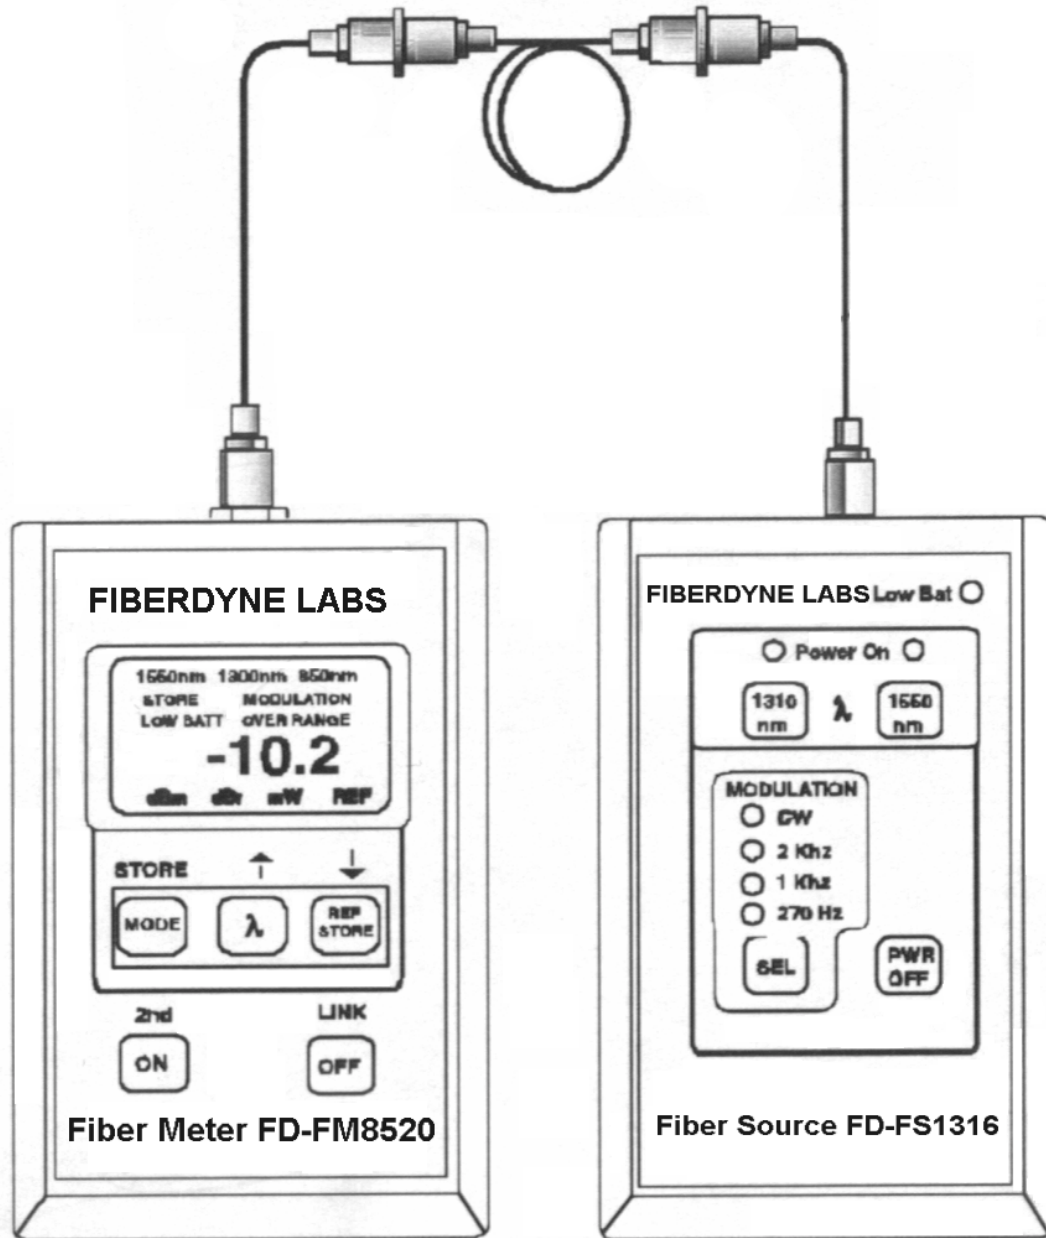

Figure 3 - Optical Loss Measurement Diagram
- Reconnect the patch cables to the fiber under test. Refer to the example in Figure 3.